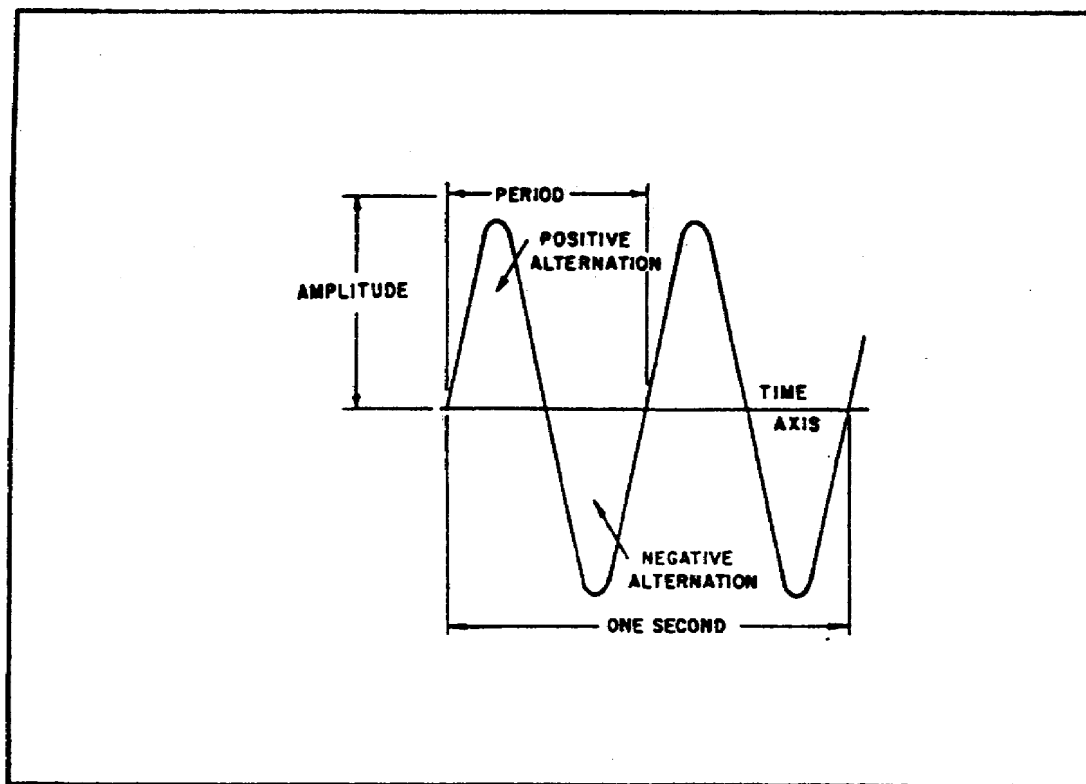

FIGURE 61. PERIOD OF SINE WAVE.
(3) *Period*. An individual cycle of any sine wave represents a definite amount of time. Notice that figure 61 shows 2 cycles of a sine wave which has a frequency of 2 Hertz (Hz). Since 2 cycles occur each second, 1 cycle must require one-half second of time. The time required to complete one cycle of a waveform is called the PERIOD of the wave. In the example in figure 61, the period is one-half second. The relationship between time (t) and frequency (f) is indicated by the formulas
Each cycle of the sine wave shown in figure 61, on the previous page, consists of two identically shaped variations in voltage. The variation which occurs during the time the voltage is positive is called the POSITIVE ALTERNATION. The variation which occurs during the time the voltage is negative is called the NEGATIVE ALTERNATION. In a sine wave, these two alternations are identical in size and shape, but opposite polarity.